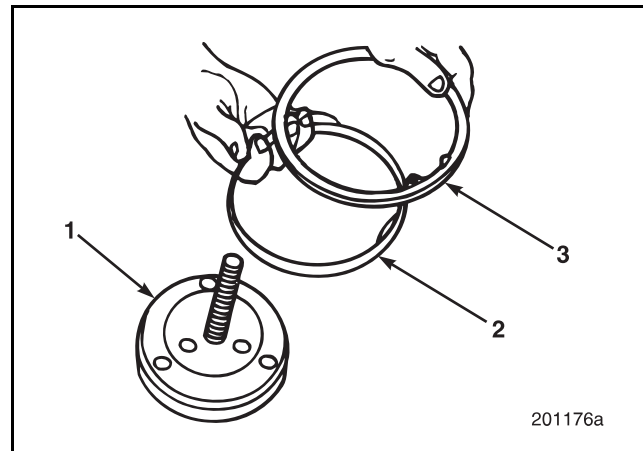

Figure 6-37 — Crankshaft Rear Oil Seal Installation
2. Position the oil seal (2) and installation sleeve (3) onto the recessed side of the J 37716-B oil seal installation tool adapter plate (1). The single-lip seal must be installed with the lip toward the engine. Refer to Figure 6-37.